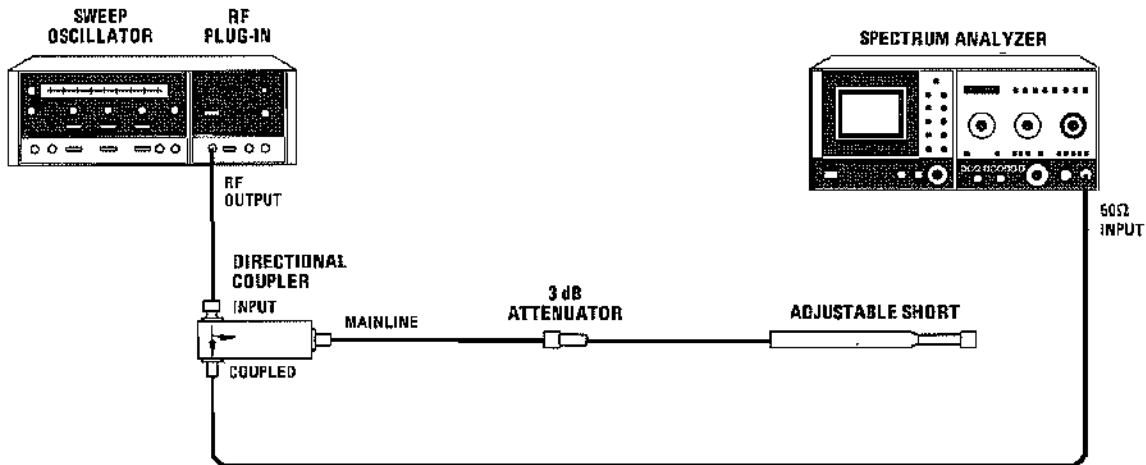

Figure 4-4. 3:1 Load SWR Test Setup
- i. Connect equipment as shown in Figure 4-4. Allow 30 minutes warm-up time.